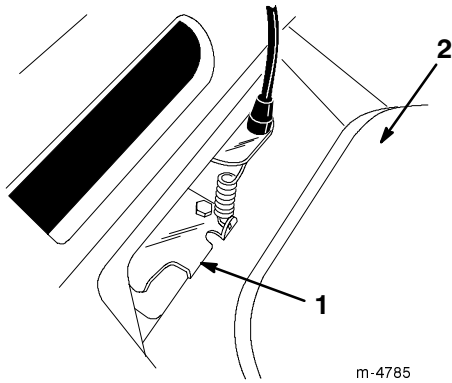

Figure 22
5. Push the belt guide tab down until it contacts the lawn mower, then hold it in place (Fig. 22).